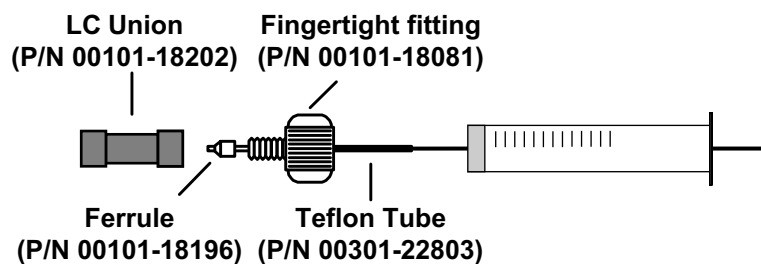

Figure 16. Plumbing connections for the syringe
1. Connect a 4 cm (1.5 in.) segment of Teflon® tube with a (brown) fingertight fitting and a (brown) ferrule to the (black) LC union. See Figure 16.